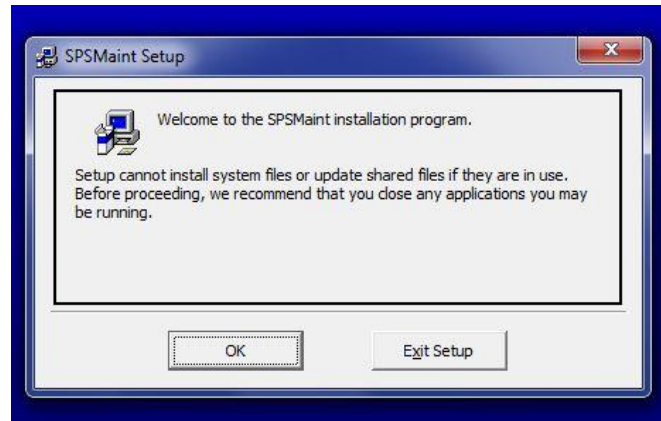

Figure C-7: Sippican SPS Maintenance Install
14. The *SPSMaint Setup* screen will appear for the Sippican installation. Click **OK** (Figure C-7).